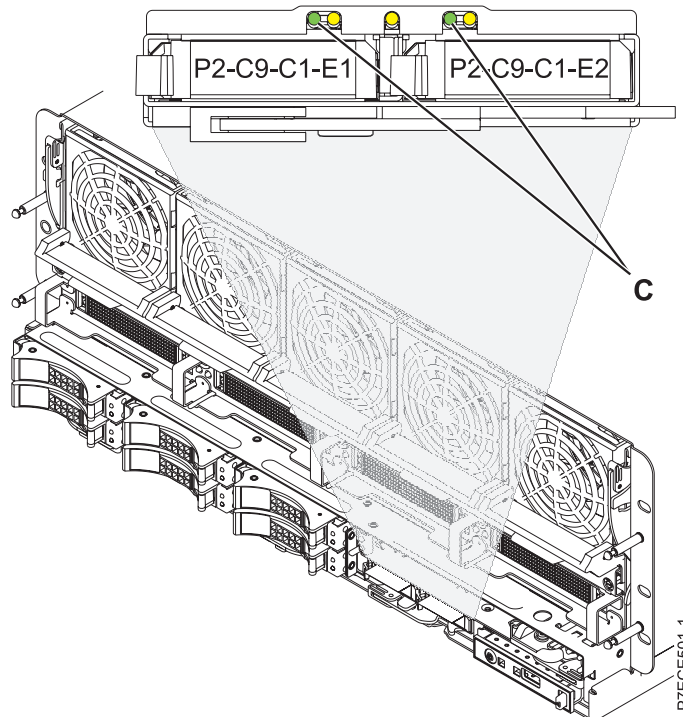

Figure 7. Cache battery LEDs
Attention: Do not remove the cache battery if the green LED (C) in Figure 7 on page 15 is flashing, because this indicates cache data exists.